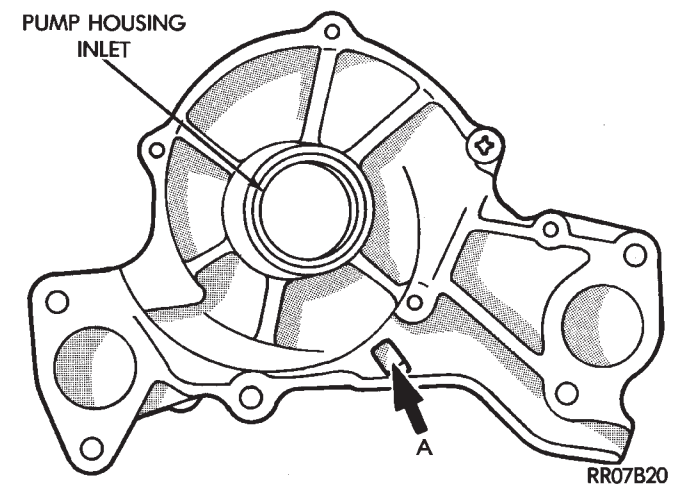

Fig. 41 Water Pump Inspection
- Coolant leaks, if the shaft seal is leaking, evident by traces of coolant leaks from vent hole A in (Fig. 41).